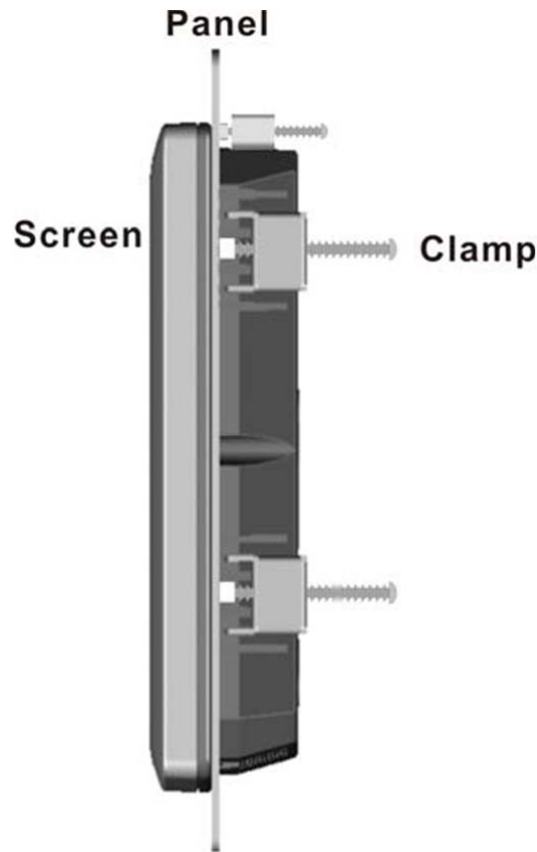

Figure 6 – Tighten the Panel Mounting Clamp Screws
- Step 5:** Tighten the screws that pass through the panel mounting clamps until the plastic caps at the front of all the screws are firmly secured to the panel (Figure 6).